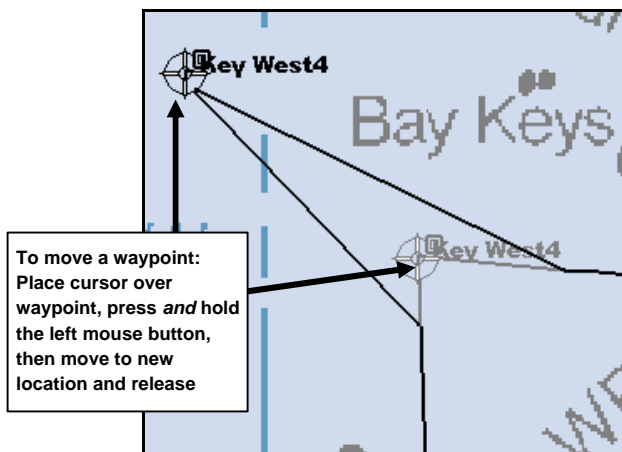

Figure 4-12. Moving a Waypoint
1. As shown in Figure 4-12, place the cursor over the waypoint you want to move, then press and hold the left mouse button.